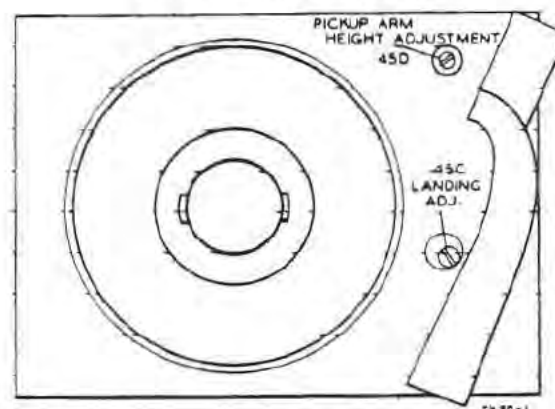

Figure 42—Height and Landing Adjustment Studs.
- After the tripping adjustment has been made as described above, turn the eccentric landing adjustment stud (45C) so that the sapphire will set down on the record half-way between the outer edge and the first music groove. This position is $2\frac{5}{8}$ " from the turntable spindle. The location of the adjustment stud is illustrated in Figure 42.
Set the mechanism in cycle. Turn the turntable by hand, until the pickup arm has reached its maximum height. By means of a screwdriver turn the height adjustment stud (45D) until the distance between the top of the turntable and the sapphire point is $\frac{3}{4}$ ". Use that position of the eccentric stud which causes the pickup arm to rise during clockwise adjustment of the stud. The location of the adjusting stud is illustrated in Figure 42.